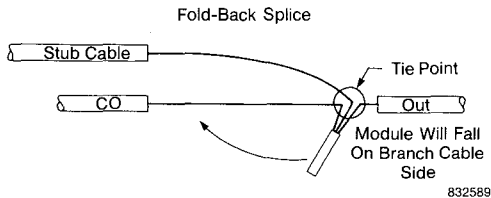

Fig. 87—Add slack to bridged cable.
- a. When preparing a bridging splice, tie the binder groups from the branch cable so that slack for future transfers is available. See Figure 87.